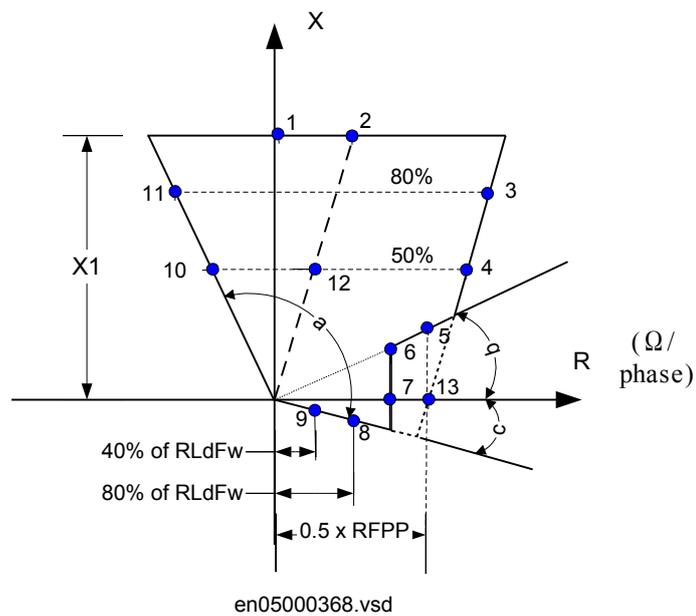

Figure 55: Distance protection characteristic with test points for phase-to-phase measurements
Table 21 is used in conjunction with figure 55.
2. Apply the fault condition and slowly decrease the measured impedance to find the operating value of the phase-to-phase fault for zone 1 according to test point 1 in figure 55 and table 21. Compare the result of the measurement with the set value.